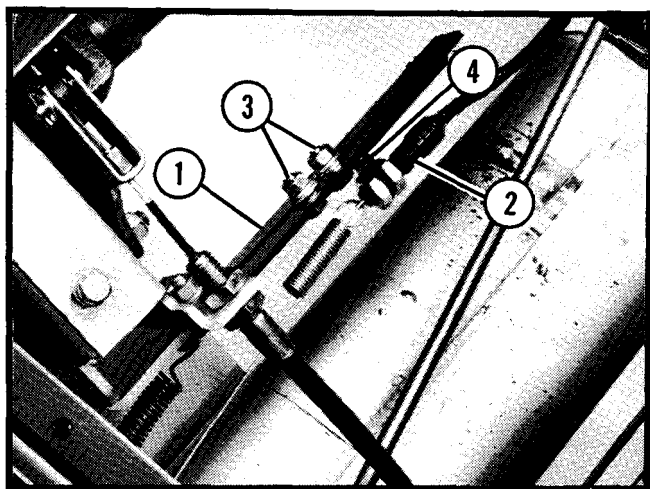

Figure 6.
1. Correct adjustment is accomplished by moving the switch mounting bracket on the safety switch slide bracket until the spring is pulled tight. (Not pulling on the switch activating plunger.) See Figure 6.
2. Additional adjustment can be made by moving the two locking nuts on the switch threaded shaft. See Figure 6.